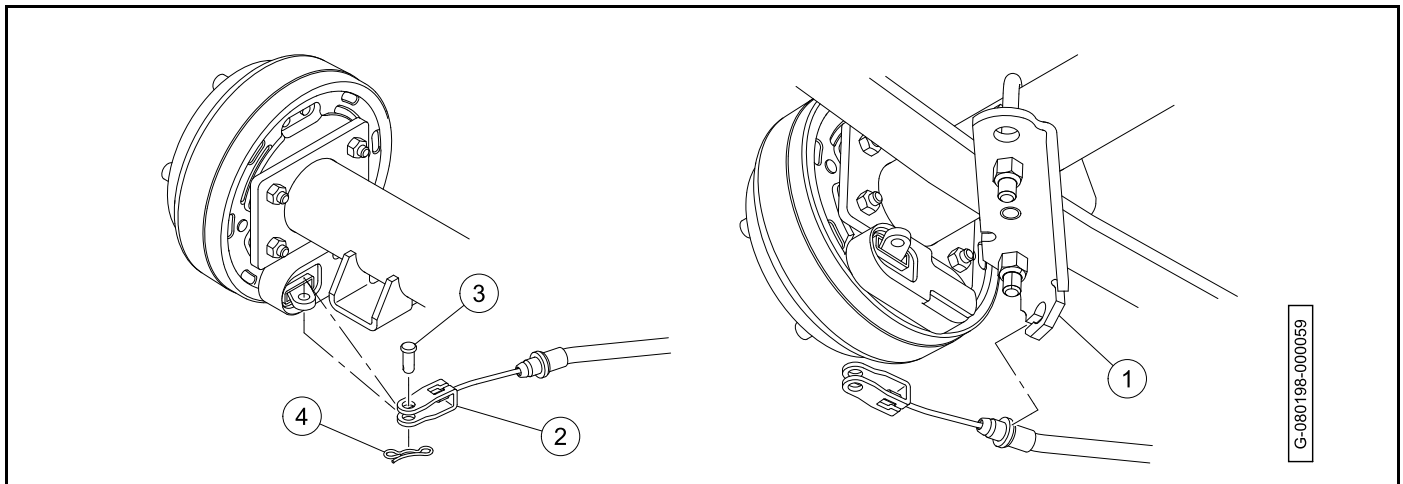

Figure 9-12
2. Install the bolts (2) and nut (3). Tighten the nut to 18.5 lb·ft (25 N·m).
4. Install the bolt (4) and nut (5). Tighten the nut to 18.5 lb·ft (25 N·m).
5. Install the shock mount bracket (6), jounce bumper (7), U-bolts (8), and nuts (9). Tighten the nuts to 45 lb·ft (60 N·m).
7. Install the rubber bushing (10), cup washer (11), and nut (12). Tighten the nut until the rubber bushing is the same size as the cup washer.
8. Install the brake cable onto the shock mount bracket (1) (**Figure 9-12, Page 9-11**).